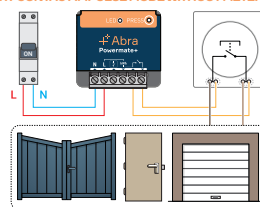

Figure 3
- 3 Wire the Powermate+, in parallel to the push-button following the diagram in figure 3.